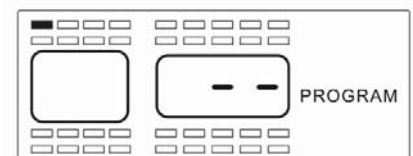

Figure 2-4
- 4) Using the arrow keys select the first tire position that you want to program. The selected wheel location will be solid. The other wheel positions will only be an outline. If sensors have already been programmed to the monitor, the only sensor locations that will be displayed will be the ones that do not have a sensor already programmed to it. When you have selected the position that you want to program a sensor to, press the **S** button for 3 seconds. This will cause the first dash (see **Figure 2-4**) of a three-digit sensor number to blink that will need to be entered.